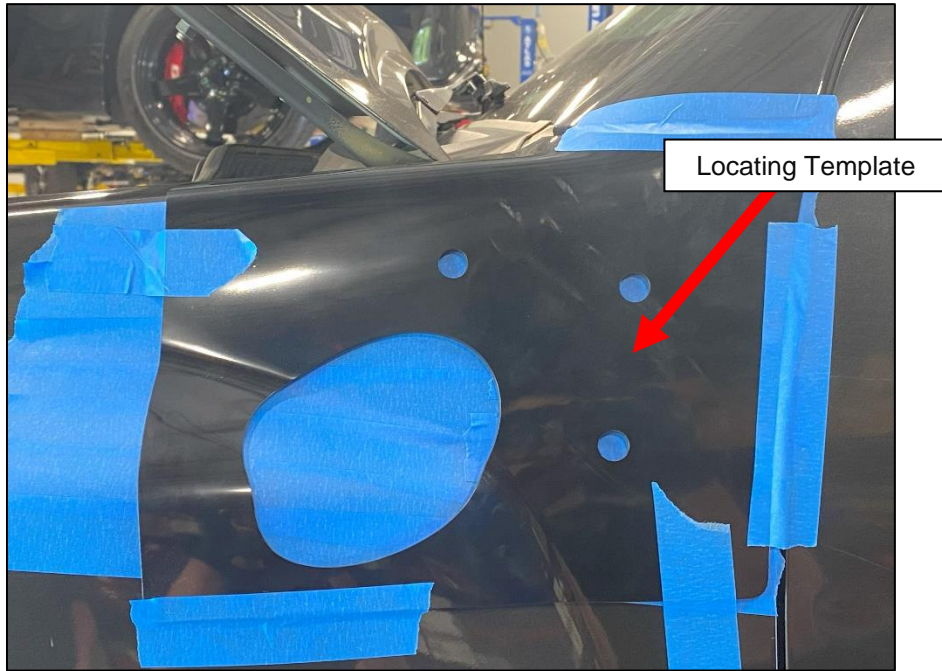

Figure 5
8. Locate the Locating Template and fit it to the Driver's Side Fender. The Locating Template is form-fitted to the Fender and can only go on one way. You want the gap from the Template-to-Door Gap and Template-to-Hood Gap to be the same. Once positioned, secure with Painters Tape. *Figure 5.*